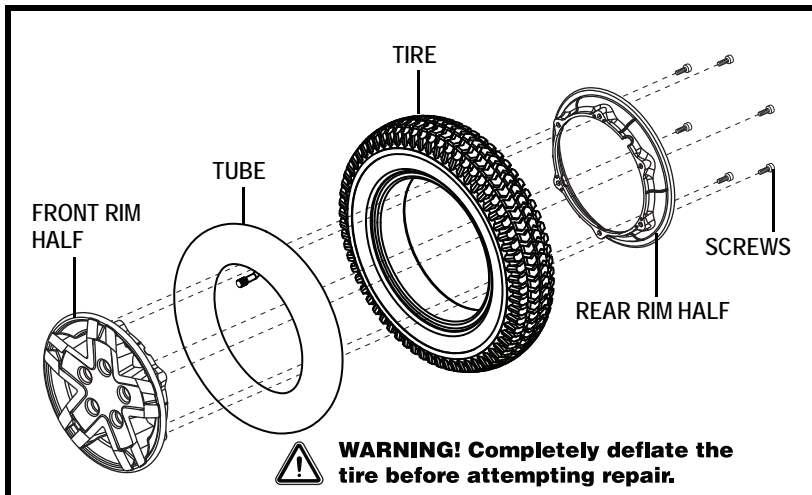

Figure 23. Quantum Q4 Drive Wheel Disassembled
6. Remove the screws and separate the front and rear rim. **See figure 23.**
10. Reinstall the five (5) lug nuts onto the wheel hub and tighten.